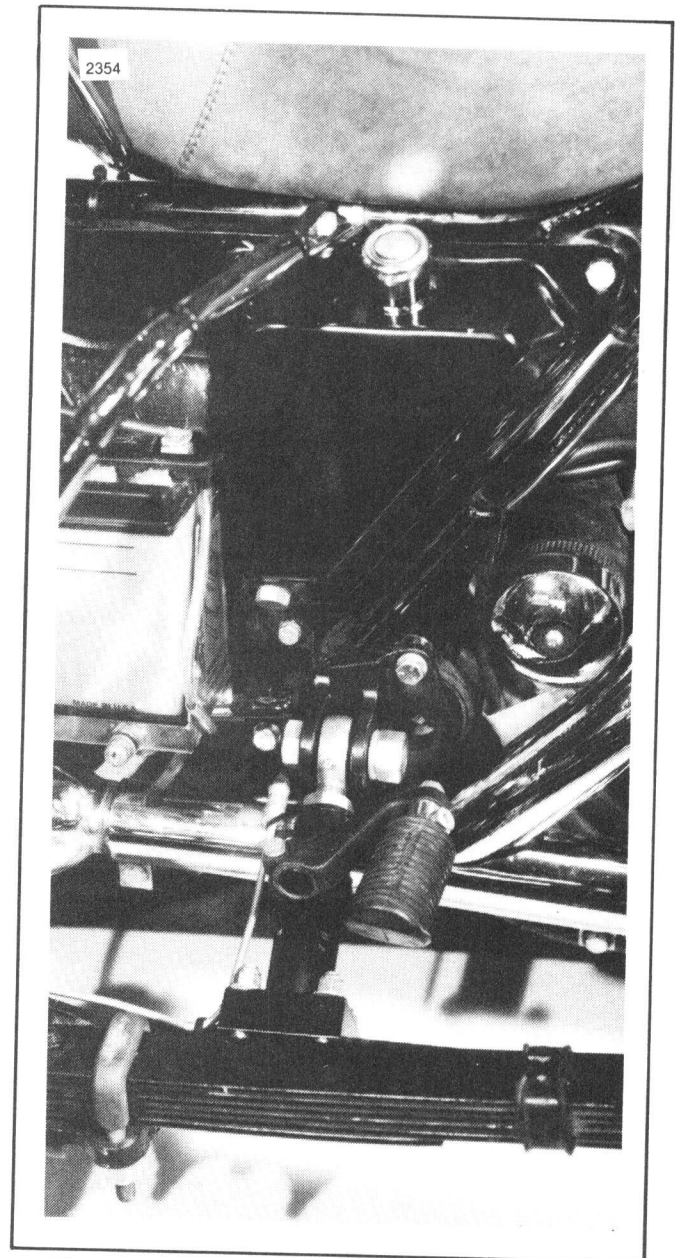

Figure 5-12. Right Passenger Footrest Installed
3. Remove nut (5). Remove footrest (7) from footrest support (8).
4. Install footrest support (8) on splined boss of rear sidecar connector as shown in Figure 5-12. Footrest support is reversed (pinch bolt head on top) when installed on sidecar.